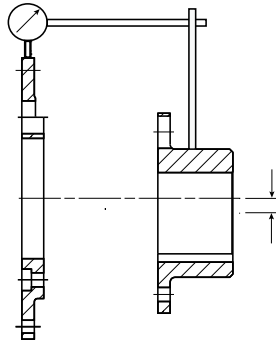

Figure 3
- 8.7. **Parallel Offset** – Rigidly mount a dial indicator on either the hub or shaft, reading the outside diameter of the adapter, as shown in **Figure 3**. Compensate for indicator set-up sag. Rotate both pieces of equipment together. Adjust the equipment by shimming and/or moving it so that the indicator reading is within 0.002" per inch of axial length between disc packs as shown in **Table 1**.